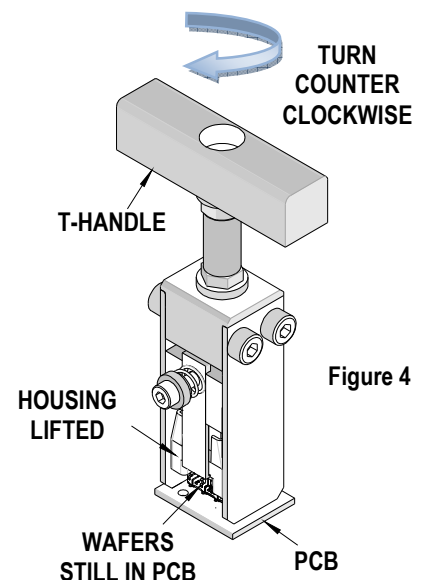

Figure 4
3. Turn the handle clockwise (CW) until the bottom of the end supports contact the board surface.
4. Continue turning the T handle clockwise (CW) until the housing assembly is removed from the PCB. See Figure 4.